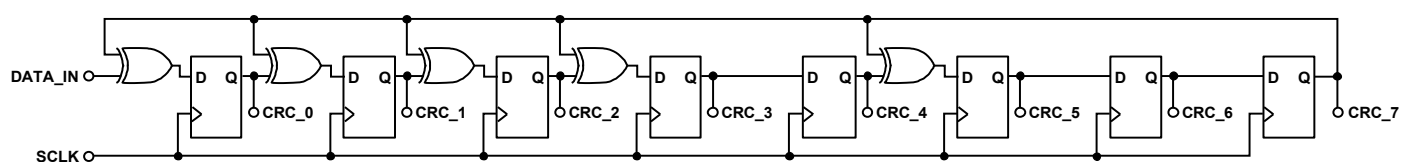

Figure 40. CRC Implementation
The polynomial used by the AD7280A to calculate the CRC bits is $x^8 + x^5 + x^3 + x^2 + x + 1$. This CRC polynomial has a Hamming distance of 4 for calculations up to 22 bits of data. The division is implemented using the digital circuit shown in Figure 40.
- xor_1, xor_2, xor_3, xor_4, and xor_5 are integer variables. These outputs of the XOR gates start with the leftmost XOR gate in the circuit implementation (see Figure 40).
- CRC_0, CRC_1, CRC_2, CRC_3, CRC_4, CRC_5, CRC_6, and CRC_7 are integer variables. The outputs of the shift registers start at the leftmost shift register in the circuit implementation (see Figure 40).
With the exception of data_in, all variables should be initialized to 0. The following code implements the CRC calculation as shown in Figure 40.